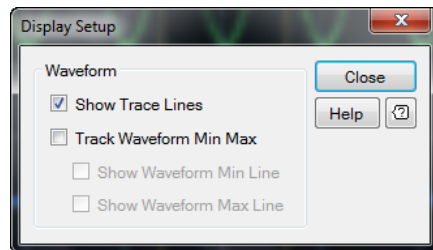

Figure 2-160 Display Setup dialog
- 2 The Display Setup dialog is displayed as shown in Figure 2-160.